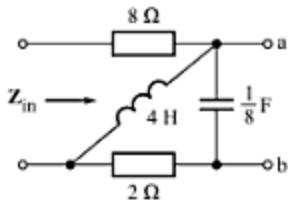

Fig. C-48
- C-45.** For the network of Fig. C-48, find  $Z_{in}$  at  $\omega = 4 \text{ rad/s}$  if terminals  $a$  and  $b$  are (a) open-circuited, and (b) short-circuited.